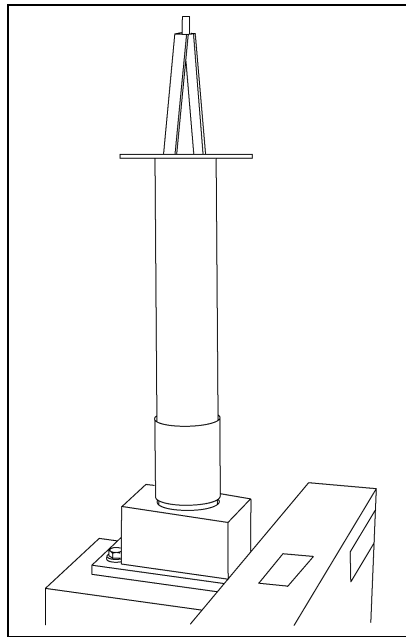
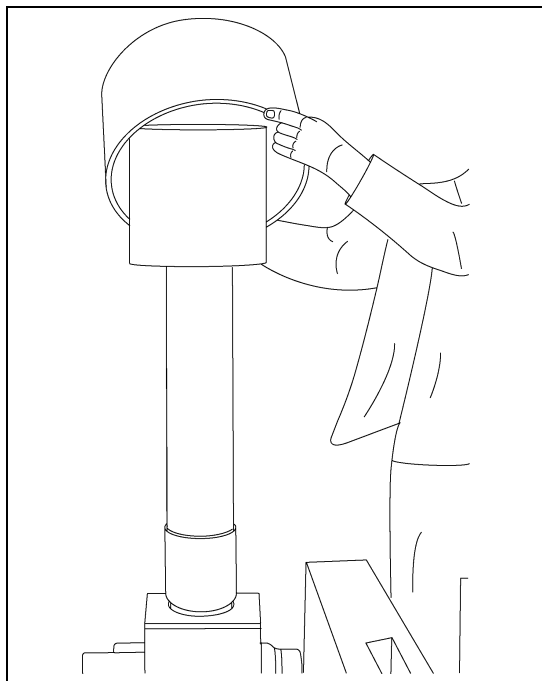

Figure 7A
Figure 7B
2. Place the air filter element with pre-filter on the base and cover with the filter canister using the 3/8" wing nut and washer. The wing nut does not need to be more than finger tight. (See Figure 7A, Figure 7B and Figure 7C.)